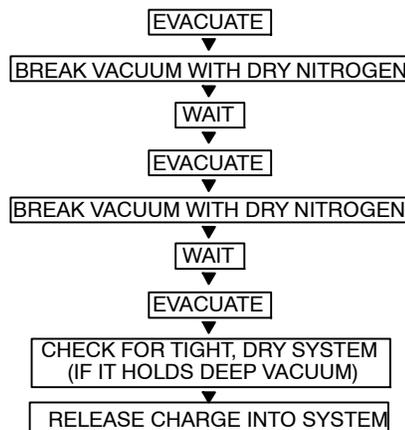

Fig. 24 – Triple Evacuation Method
The triple evacuation method should only be used when vacuum pump is only capable of pumping down to 28 in. of mercury vacuum and system does not contain any liquid water. Refer to Fig. 24 and proceed as follows:
5. Repeat this procedure as indicated in Fig. 24. System will then be free of any contaminants and water vapor.